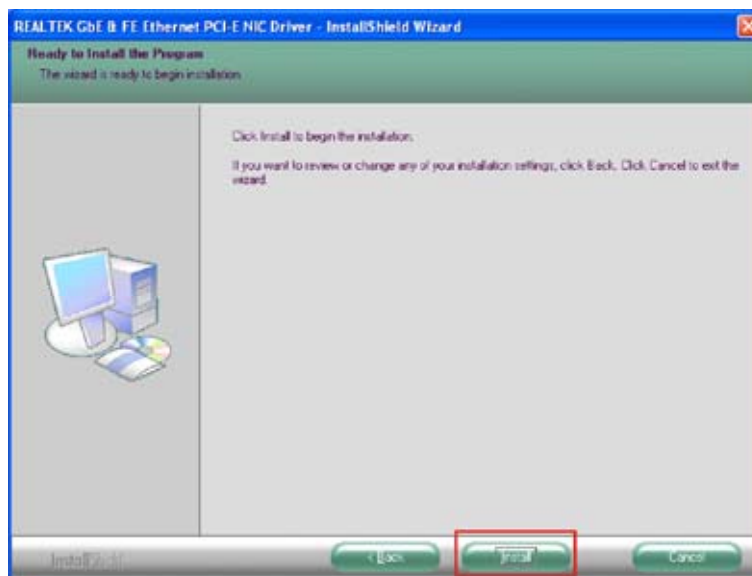

Figure 7-17: LAN Driver Welcome Screen
Step 40: The **Ready to Install** screen in **Figure 7-17** appears.